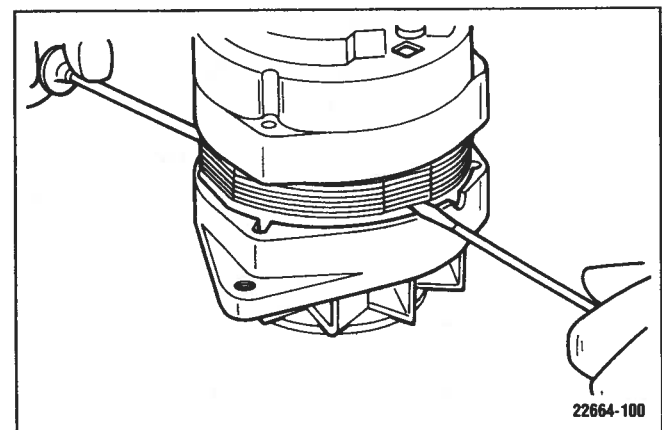

Figure 6-126. Housing And Stator Removal
13. Remove four through-bolts and carefully pry the front housing away from the rear housing using two screwdrivers. (Figure 6-126)